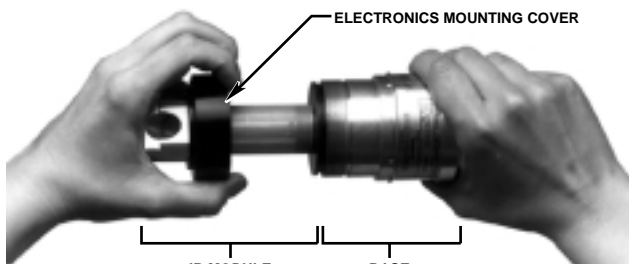

Figure 13—IR Module Removal
3. Slide the electronics mounting cover back to the base of the mirror assembly and pull the IR module out of the base as shown in Figure 13.